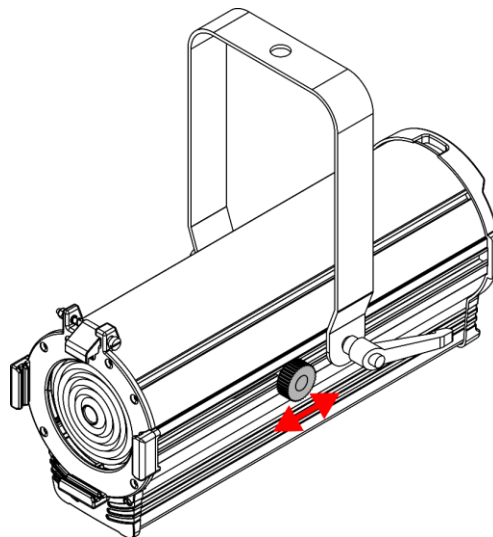

Fig. 09
- 01) Turn the **zoom control (04)** counterclockwise to loosen them.
- 02) Slide the control forwards or backwards to achieve the desired beam angle (see Fig. 09).
- 03) After adjusting the beam angle, turn the **zoom control (04)** clockwise to tighten it. Do not overtighten them.